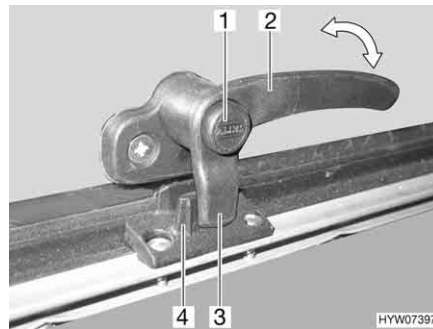
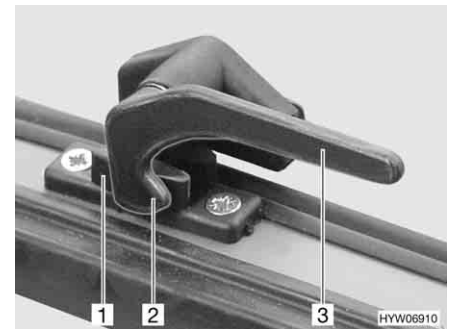

Fig. 71 Catch lever with safety knob in "closed" position
Fig. 72 Catch lever in "closed" position
- Press and hold the security button (Fig. 71,1), if present.
- Turn the catch lever (Fig. 71,2 or Fig. 72,3) a quarter turn towards the centre of the window.
- Turn the catch lever (Fig. 71,2 or Fig. 72,3) a quarter turn towards the window frame. The locking catch (Fig. 71,3 or Fig. 72,2) on the catch lever is entirely on the inner side of the window catch (Fig. 71,4 or Fig. 72,1).
- Firmly closed (Fig. 71 and Fig. 72)